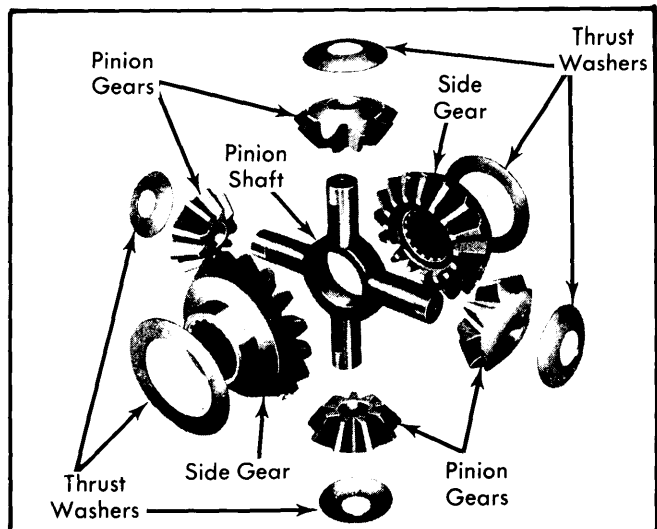

Fig. 5 Differential Pinion Shaft, Pinion Gears, Side Gears and Thrust Washers
5) Install ring gear on differential half and rivet into place. Rivets should be installed cold and not heated. If correct rivet is used, rivet head will be approximately 1/8" larger than rivet hole and approximately the same height as preformed rivet head. If correct size rivets are not available, service replacement bolts can be installed. Lubricate machined surfaces on inside of differential halves and all components. Install one thrust washer and side gear in ring gear half. Install pinion gears and thrust washers on pinion shafts and place assembly in position in differential case half. Place other side gear and thrust washer in position on pinion gears. See Fig. 5.